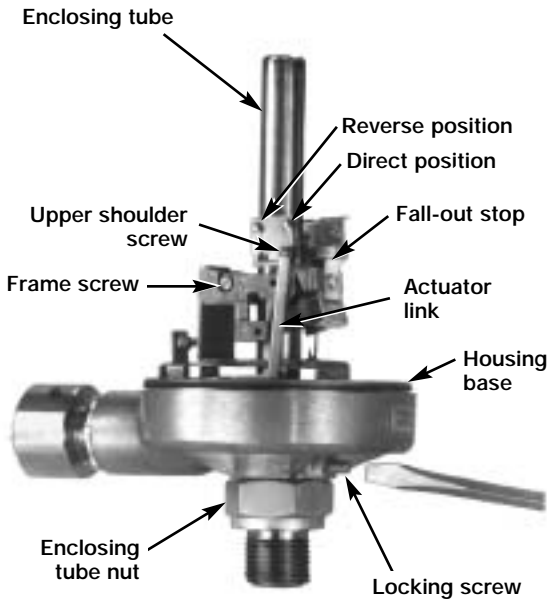

Figure 3
1. The action can be reversed by first removing the upper shoulder screw from the actuator link and moving it from the direct (D) position to the reverse (R); refer to Figure 3.
1. Loosen both the special locking screw above the enclosing tube nut and the frame screw. Refer to Figure 3.
2. Loosen both the special locking screw, above the enclosing tube nut, and the frame screw approximately 3 to 4 turns. Refer to Figure 3.
- A. Hold the magnet against the fall out stop. Refer to Figure 3.